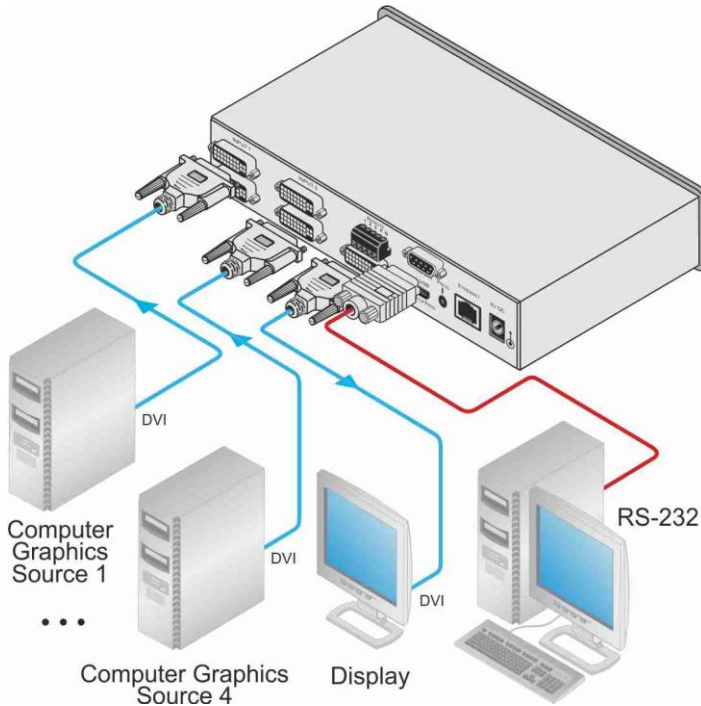

Figure 3: Connecting a VS-41HDCP 4x1 DVI Switcher
To connect the **VS-41HDCP 4x1 DVI Switcher** (as illustrated in Figure 3), do the following:
4. Connect the 5V DC power adapter to the power socket and connect the adapter to the mains electricity (not shown in Figure 3).